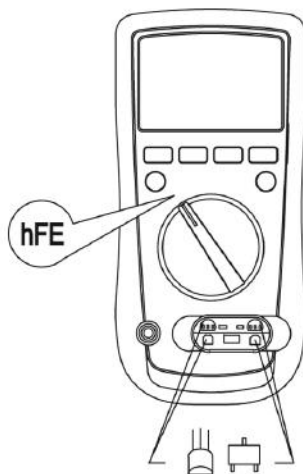

figure 10
I. Transistor hFE Measurement (UT61A only) (See figure 10)
2. Insert the multi-purpose socket into the input terminal as shown on figure 10.